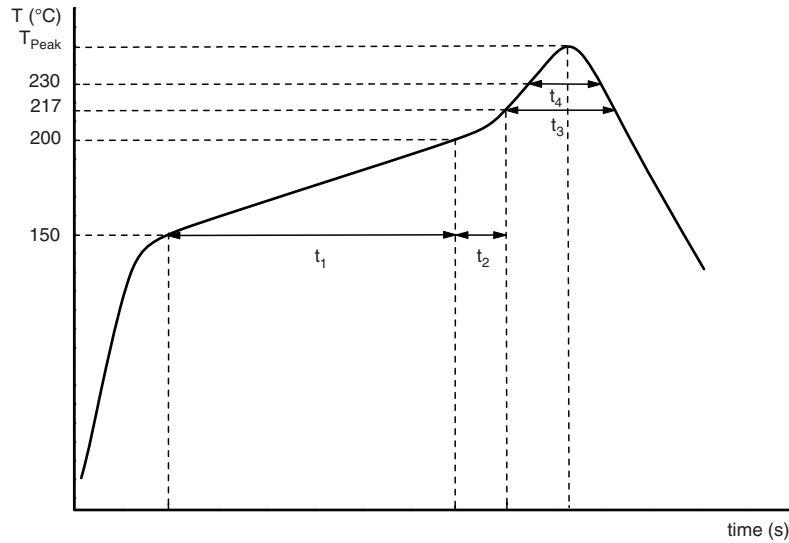

Fig.4 Maximum temperature load during reflow soldering
For maximum conditions refer to Fig.4 or Fig.5
- (1) Standard reflow soldering profile, see Fig.4 and Table 4